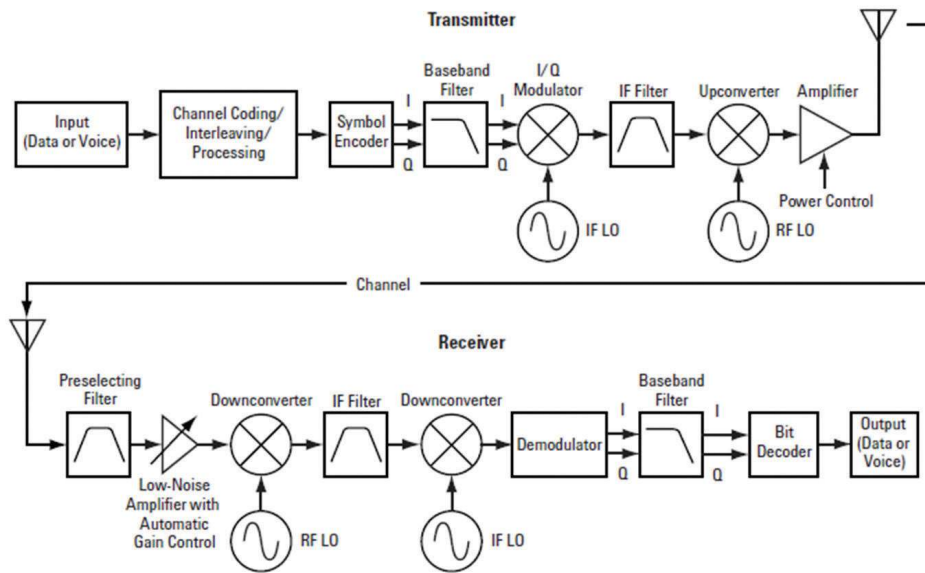

Figure 2. Block diagram of a digital radio system
Figure 2 is a typical communication system block diagram. Using an active probe with a network (NA), spectrum (SA), or signal source analyzer (SSA) you can measure at any RF, baseband, LO path, and DC path to check the signal condition (i.e. spurious signals, harmonics, phase noise, signal level, etc.). Without the probe, you either need to determine the possible root cause based on a functional test measurement or isolate specific components for verification. “*Wireless Test Solutions Application Note 1313*” literature number 5989-3578E and “*Testing and Troubleshooting Digital RF Communications Receiver Designs Applications Note 1314*” literature number 5968-3579E, discuss digital testing and troubleshooting in more detail.